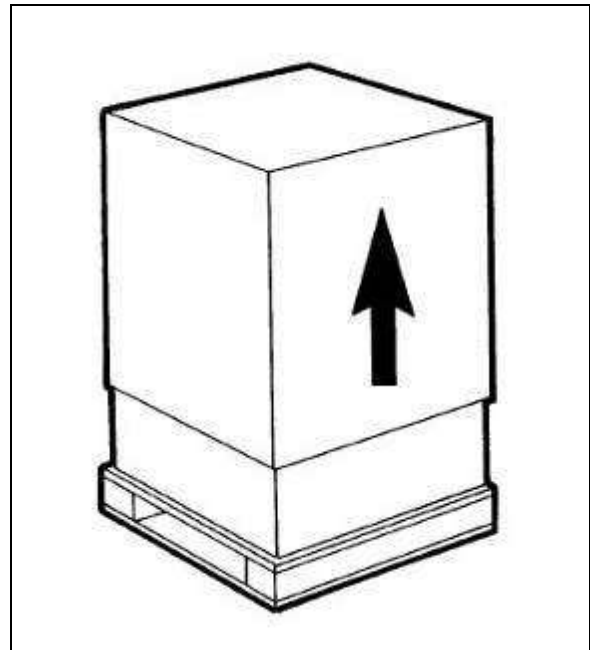

Fig. 1
- a) Remove the packing (fig.1), preserve it in order to reuse for winter storage and make sure the machine is in perfect condition.